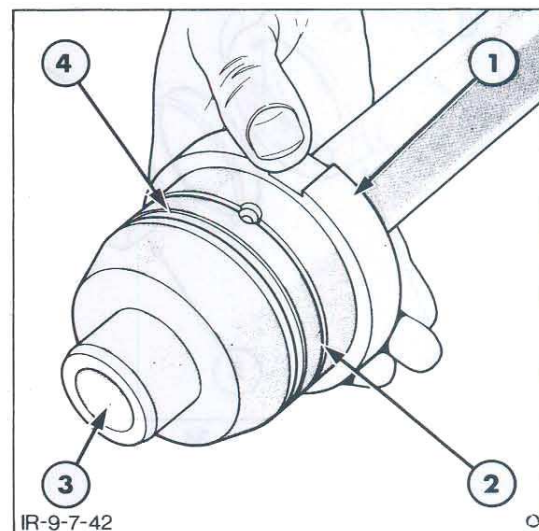

Figure 42
6. Remove the piston and slide the gland from the rod, Figure 42.